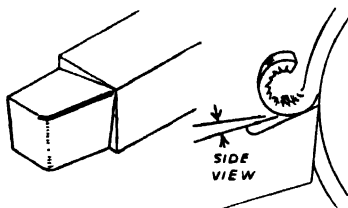

Fig. 11-12. Back rake angle. (The Shell Oil Company)
**Back Rake.** This term indicates that the plane which forms the face or top of a tool has been ground back at an angle sloping from the nose. However, when a tool bit is held by a toolholder, the holder establishes the back-rake angle which normally is  $16\frac{1}{2}$  deg. The extent of back rake influences the angle at which the chip leaves the workpiece as it is directed away from the nose of the tool (Fig. 11-12).